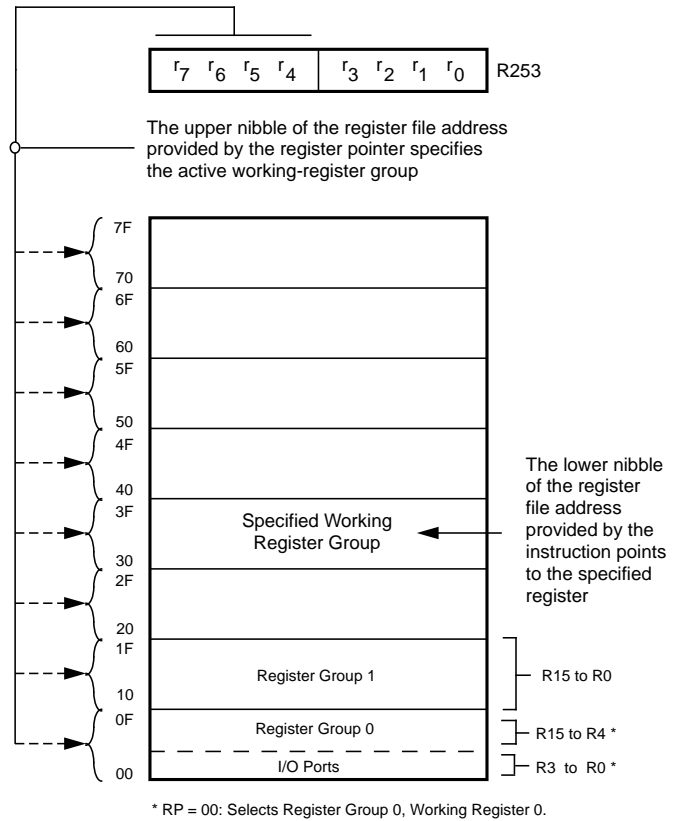

Figure 16. Register Pointer
**Comparator Inputs.** In Analog Mode, Port 3 (P31 and P32) have a comparator front end. P33 serves as the reference for both comparators. In this mode, the P33 internal data latch and its corresponding IRQ1 is diverted to the SMR Sources (excluding P31, P32, and P33) as shown in Figure 38. In digital mode, P33 is used as D3 of the Port 3 input register which then generates IRQ1 as shown in Figure 16.
Z86L70: (See Figure 16)